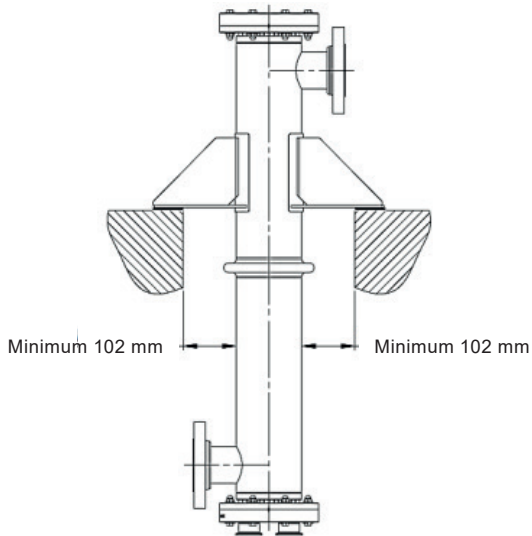

Fig. 5
- vertical position assembly – there should be provided minimum 102 mm clearance between the outside of the tubular heat exchanger and the wall or a column (Fig. 5).